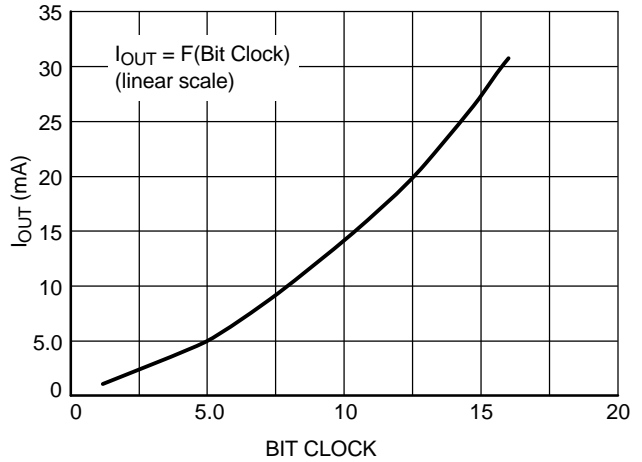

Figure 9. Typical Output Current Slope
The reference current is multiplied by the internal current mirror, associated to the number of pulses as depicted Figure 9, to yield the output load current. Since the reference voltage is based on a temperature compensated Band Gap, a tight tolerance resistor will provide a very accurate load current. The resistor is calculated from the Ohm's law ($R_{bias} = V_{ref}/I_{REF}$) and define the maximum current flowing into the LED when 20 pulses have been counted at the CNTL pin.
- The pulses from the fifth to the twentieth will increase the LED current according to a pseudo logarithmic scale (see Figure 9).